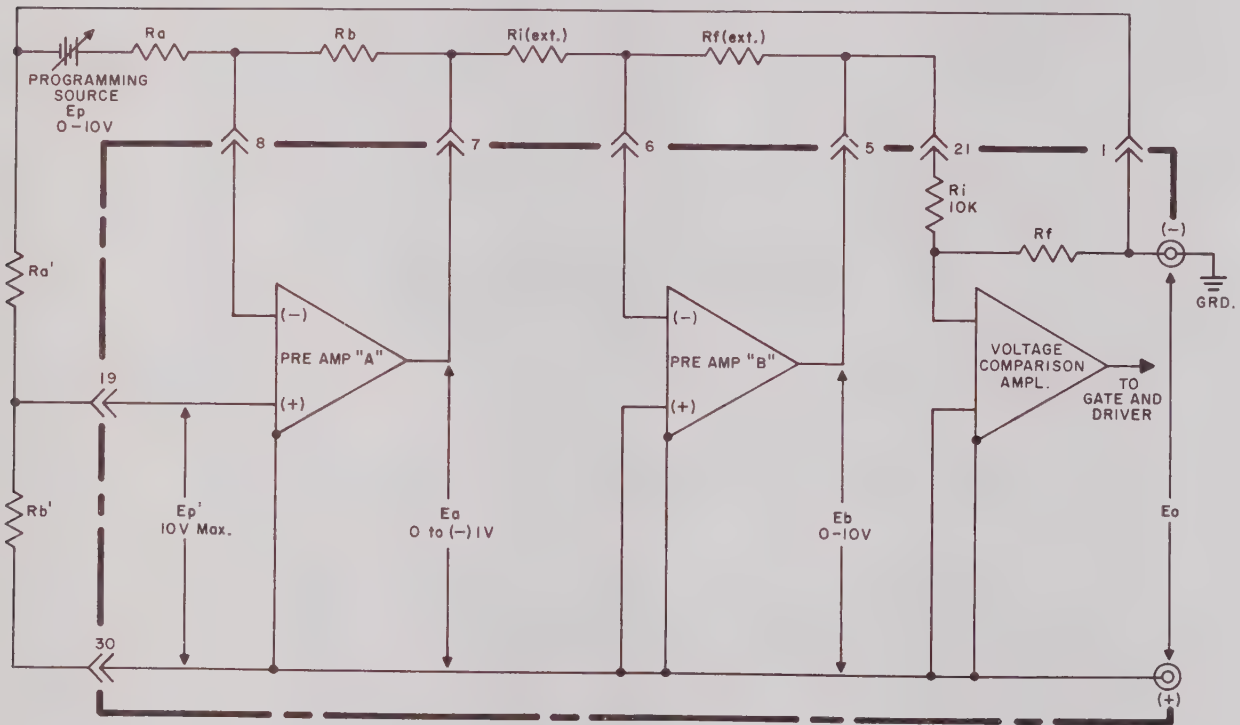

FIG. 3-29 PROGRAMMING WITH REFERENCE TO THE NEGATIVE OUTPUT SIDE OF THE ATE.
- 3-117 This problem is readily solved by the ATE power supply (See FIG. 3-29). PREAMP "A" is used to perform as a differential attenuator, permitting a level shift of the programming source, while PREAMP "B" brings the programming signal back to the required level (0–10V).
Definition of Symbols in FIG. 3-29